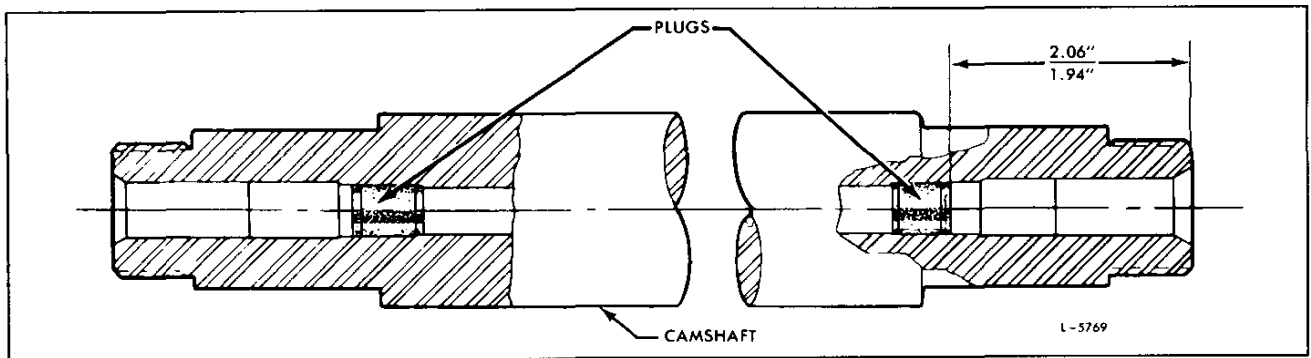

Fig. 11 – Camshaft Plug Installation
2. Install new end plugs in the camshaft. Press the plugs in to a depth of 1.940" to 2.060" (Fig. 11).